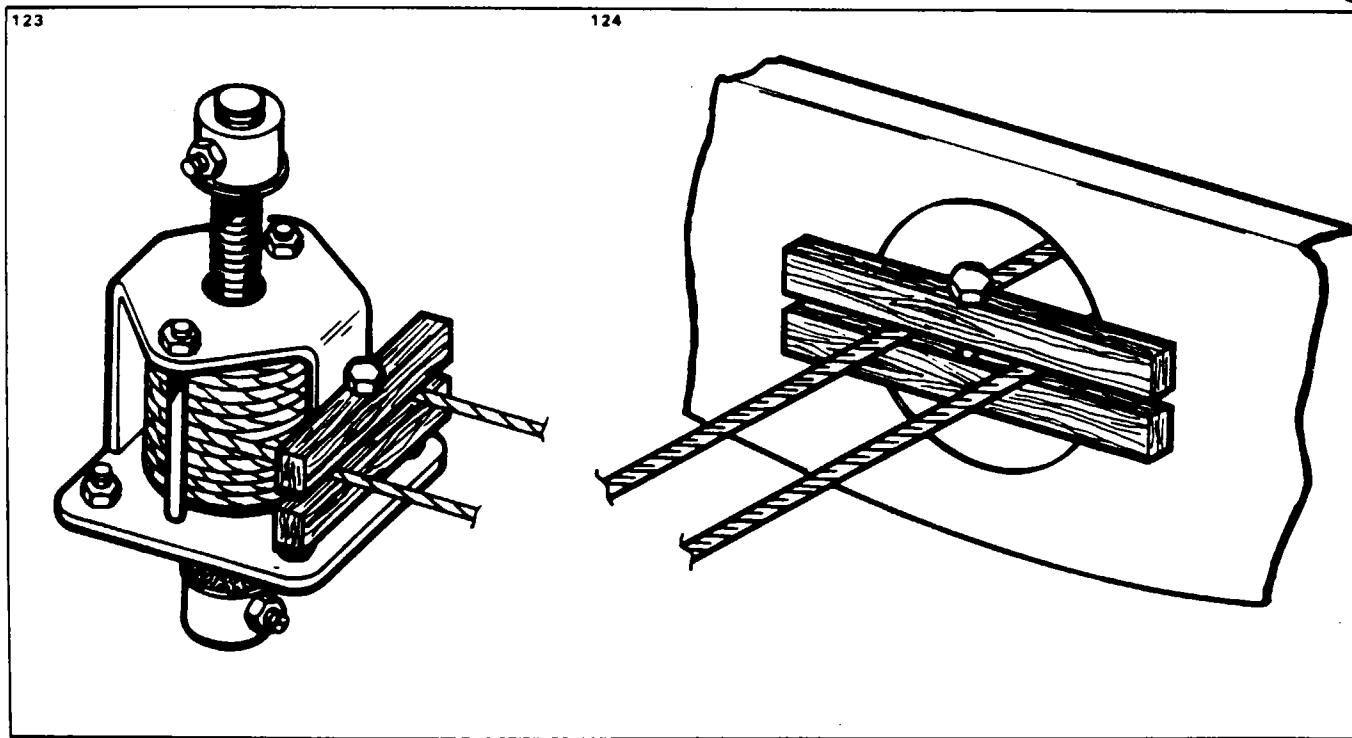

Figure 57-2. Methods of Blocking Trim Cables
- C. Remove the access panel to the aft section of the fuselage. Block the elevator and rudder trim cables ahead of the main spar and in the aft section of the fuselage to prevent the cables from unwrapping at the trim drums. (Refer to Figure 57-2.) Disconnect the elevator and rudder trim cables and draw the cables forward through the main spar. To allow the cables to be drawn through the fuselage, remove the cable guard and rub blocks.